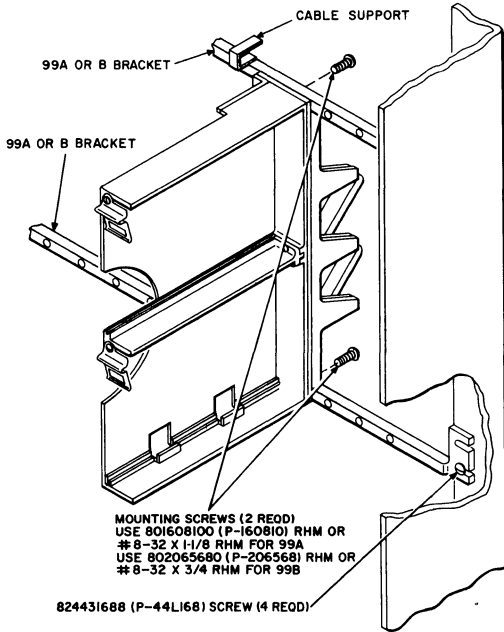

Fig. 3—69B, 69D, or 69G Apparatus Mounting on a 99A (MD) or 99B Bracket
- (g) The 69B, D, and G apparatus mountings are designed for frame mounting with a 99A (MD) or B bracket (Fig. 3). Mounting screws are furnished with each apparatus mounting.
- 3.04** If the 69-type apparatus mounting is to be installed in a cabinet, 16C apparatus mounting, or relay rack, install the 99A (MD) or B brackets (Fig. 3).